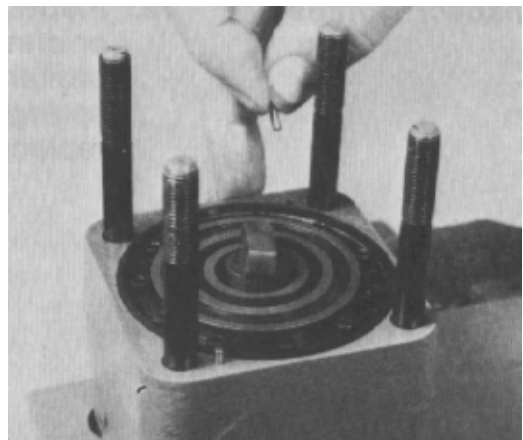

Figure 58
21. Remove the two isolation manifold–metering ring alignment pins (Fig. 58).